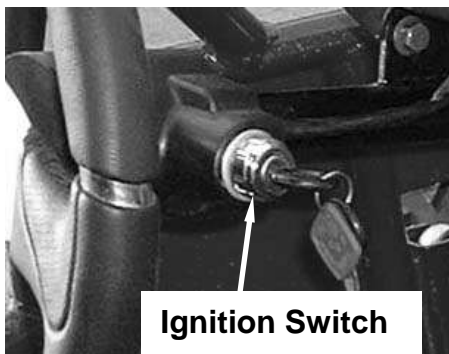

FIGURE 4
6) **Ignition Switch:** Pull firmly up on the park brake lever with your hand until the lever is tight. Set shift selector in neutral. Insert the key into key-switch, turn the key clockwise, and release the key when the engine starts. (Warning: Don't crank starter more than 5 seconds at one time). (See figure 4)